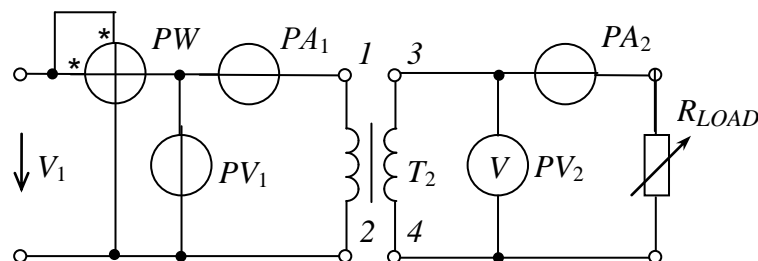

Fig. 9.13.
1. Collect the electrical circuit (fig. 9.13), where PV – is a Volt-meter, PW – a Watt-meter and PA – Ammeter.
The name and purpose of the work. The schematic diagram of the investigated circuit (fig 9.13). The tables 9.2, 9.3, 9.4. Conclusions.